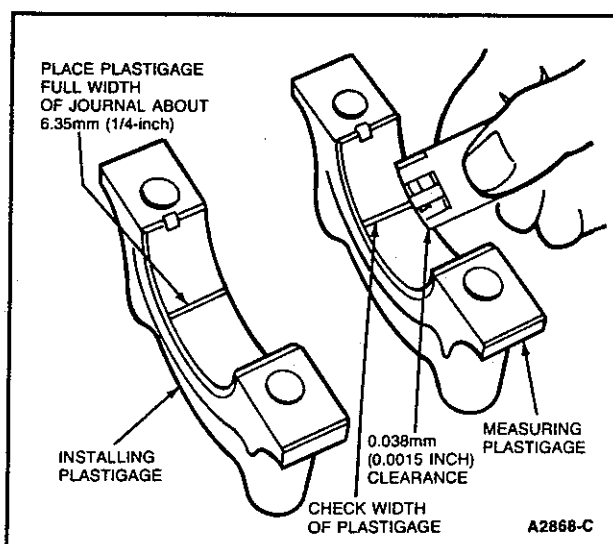

Figure 34 Installing and Measuring Plastigage — Engine Installed
3. Place a piece of Plastigage or equivalent on bearing surface across full width of bearing cap and about 6.35mm (1/4 inch) off center (Figure 34).